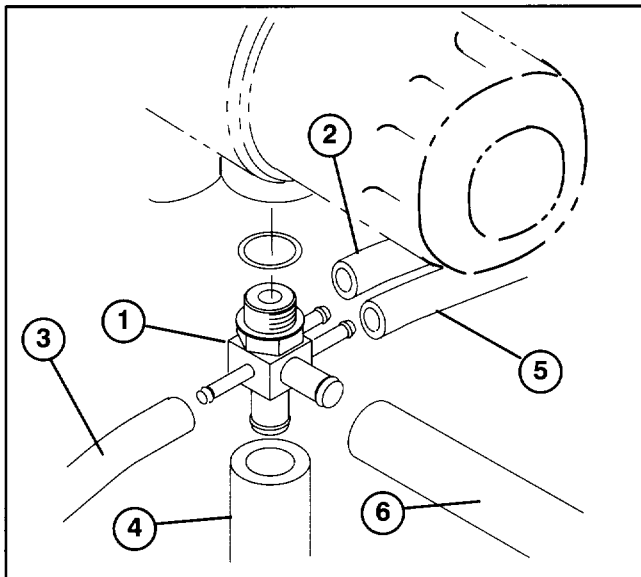

Figure 16
29. Install new special fitting (92-5640) into bottom of transmission (Fig. 16). Position fitting so side with two openings points toward right side of machine.
30. Reinstall lift cylinder hoses and return hose to new cross fitting. Position hoses as shown in figure 16.
31. Install hydraulic hose to 90° fitting on front of manifold block and remaining opening on side of cross fitting with (2) hose clamps. Reposition 90° fitting, as required, for hose connection.